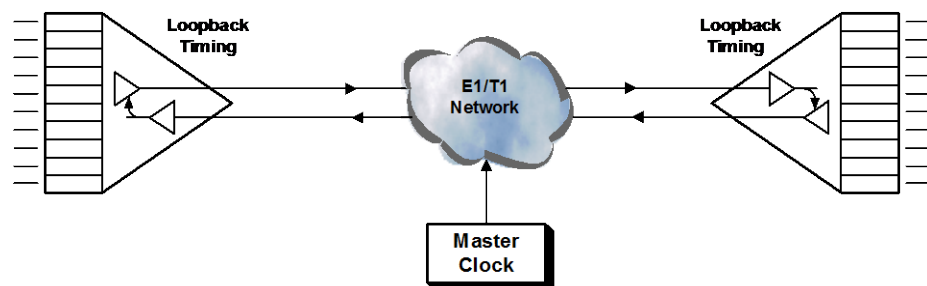
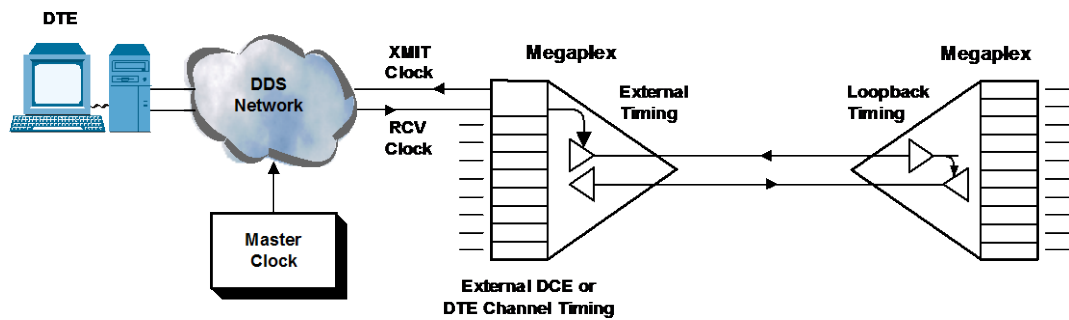

Figure 1-13. Typical Application of Loopback Timing
Figure 1-14. Typical External Timing Application
*Figure 1-13* shows a basic network configuration that uses the internal timing mode in conjunction with loopback timing.
With loopback timing, the main link transmit clock is locked to the receive clock derived from the receive data of the same main link module. In effect, with loopback timing the Megaplex is sending back data at the rate data is being received. The loopback mode can be used as shown in Figure 1-13, however there is an additional important application for the loopback mode, as shown in Figure 1-14.
In the configuration of Figure 1-14, two Megaplex units communicate through a link provided by a digital transmission network, e.g., the national network or a private carrier network.